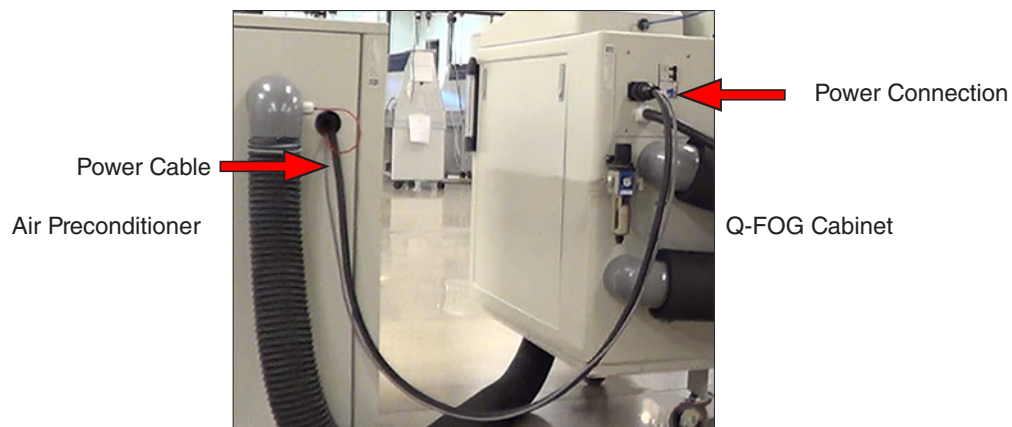

Figure 6.4l: Air Preconditioner power cable connection.
- Connect the Air Preconditioner power cable to the Q-FOG connector (Figure 6.4l).